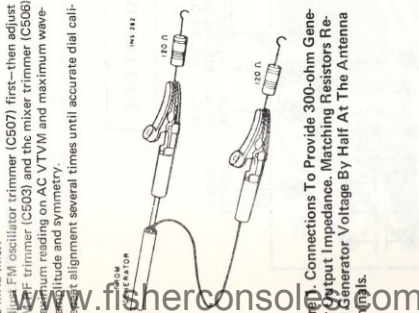

Figure 1. Connections To Provide 300-ohm Generator Output Impedance. Matching Resistors Reduce Generator Voltage By Half At The Antenna Terminals.
- (2) Connect an FM generator to the FM NORM antenna terminals. Use a 120-ohm composition resistor in series with each lead from the generator (see Figure 1).
- (3) Connect a scope and an AC VTVM to either the L or R RCDR OUT jack.
- (4) Set generator frequency and TUNING dial pointer to 90 MHz (Mc). Modulate generator with 400 Hz (cps) ± 5% (kc) deviation. Use as low a generator output as possible.
- (5) Align FM oscillator coil (L504) core first—then align the FM RF coil (L502) and the FM mixer coil (L503) cores for maximum reading on AC VTVM and maximum waveform amplitude and symmetry.
- (6) Set AM generator frequency and TUNING dial pointer to 100 MHz (Mc).
- (7) Adjust FM oscillator trimmer (C507) first—then adjust the FM RF trimmer (C503) and the mixer trimmer (C506) for maximum reading on AC VTVM and maximum waveform amplitude and symmetry.
- (8) Repeat alignment several times until accurate dial cali-